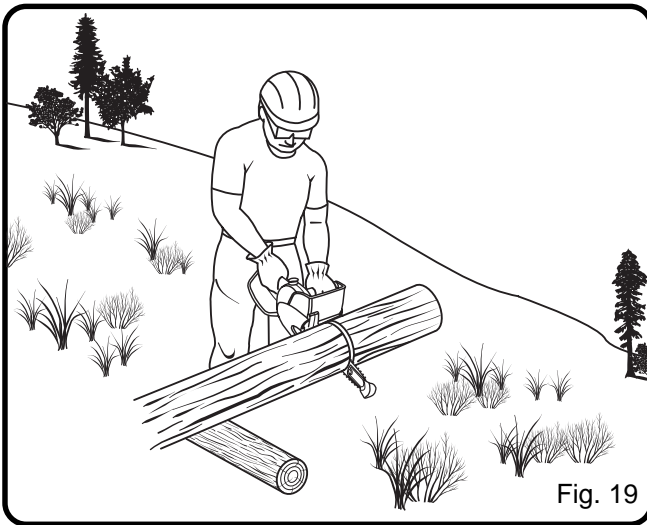

Fig. 19
- When bucking on a slope, always stand on the uphill side of the log. To maintain complete control of the chain saw when cutting through the log, release the cutting pressure near the end of the cut without relaxing your grip on the chain saw handles. Do not let the chain contact the ground. After completing the cut, wait for the saw chain to stop before you move the chain saw. Always stop the motor before moving from tree to tree. See Figure 19.
When bucking on a slope, always stand on the uphill side of the log as shown in Figure 19. When “cutting through”, to maintain complete control of the chain saw, release the cutting pressure near the end of the cut without relaxing your grip on the chain saw handles. Do not let the chain contact the ground. After completing the cut, wait for the saw chain to stop before you move the chain saw. Always stop the motor before moving from tree to tree. See Figure 19.